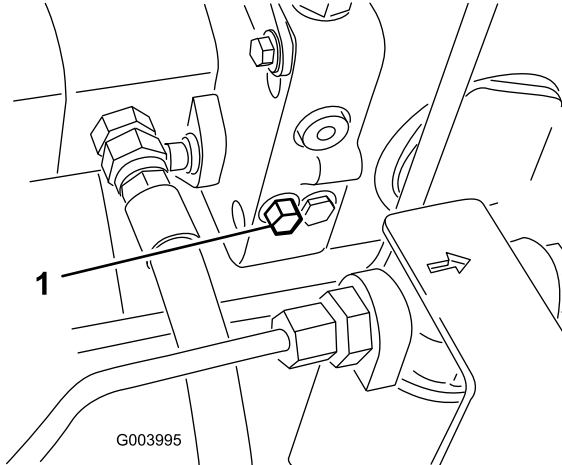

Figure 37
1. The bypass valve is located on the left side of the hydrostat (Figure 37). Rotate the bolt 1-1/2 turns to open and allow oil to bypass internally. Because fluid is bypassed, the machine can be moved slowly without damaging the transmission.